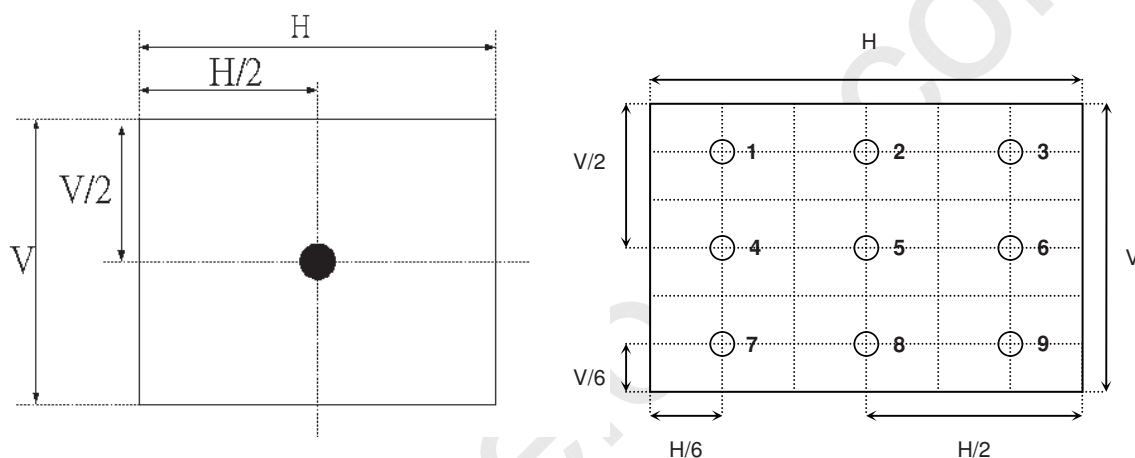

Fig.4-2 Optical measurement point
2. Surface luminance is luminance value at point 5 across the LCD surface 50cm from the surface with all pixels displaying white. From more information see Fig. 4-2. When $V_{DDB} = 24V$, $I_{DDB} = 6.4A$. $L_{WH} = L_{on5}$, Where L_{on1} is the luminance with all pixels displaying white at center 5 location.